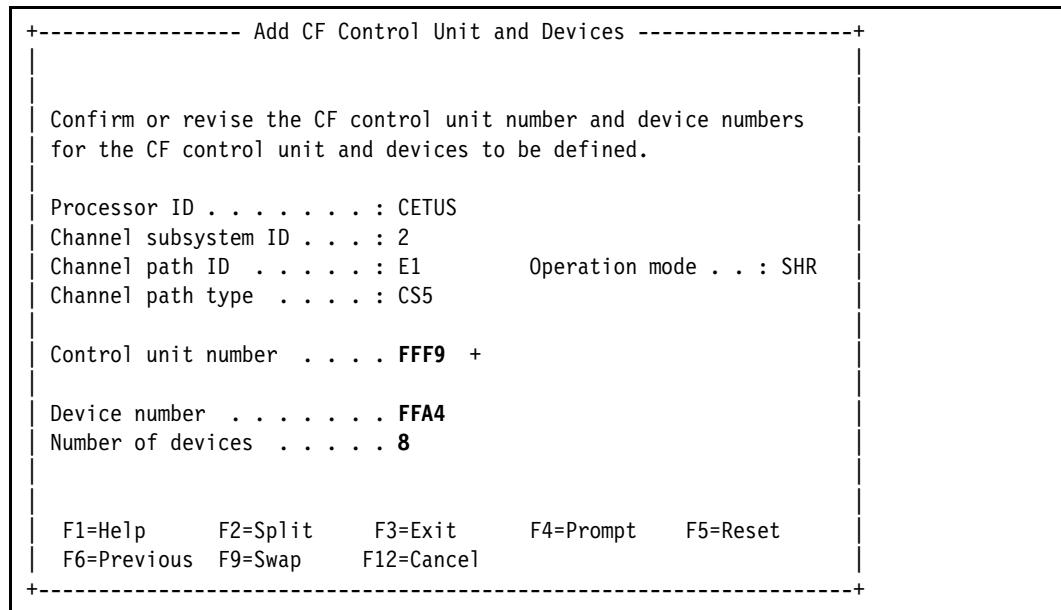

Figure 14-10 Processors: Add CF Control Unit and Devices, CS5
9. HCD checks available Control Unit numbers and Device addresses starting at FFFF and working backwards to provide suggestions. These suggestions can be overridden or accepted. We accept the suggestions for the second CS5 CHPID (Figure 14-10) and press **Enter**.